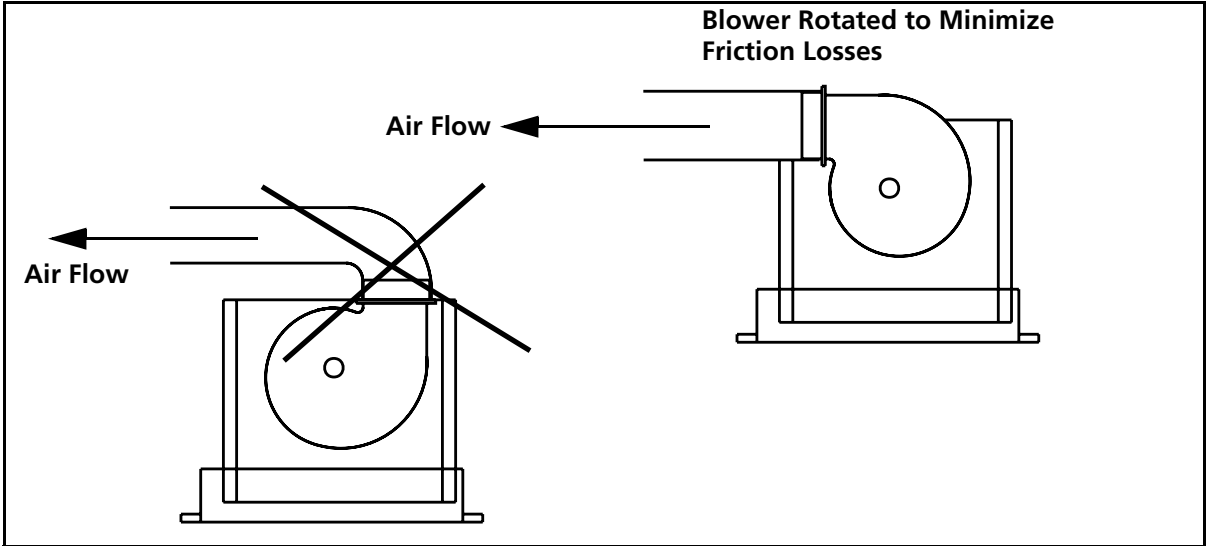

Figure 7. Rotating Blower Outlet
3) Blower Outlets: 90° turns with flexible ducts directly from blower outlets should be avoided at all costs as they introduce severe restrictions in the air flow. All WEBASTO blowers (except on 24000 BTU models) can be rotated through 45° steps so as to obtain a straight-line outlet from the blower. See Figure 7 for approved installation.